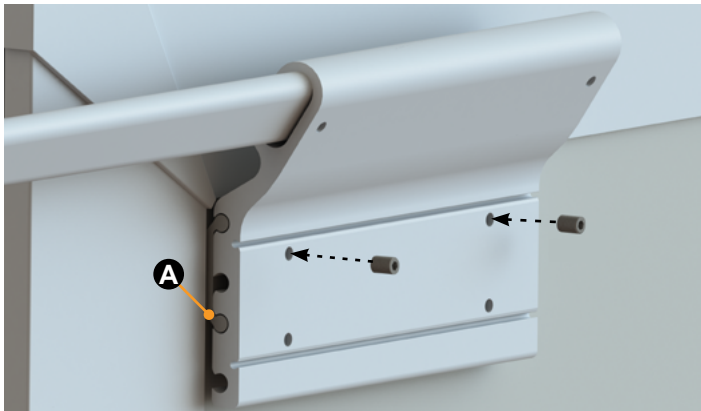
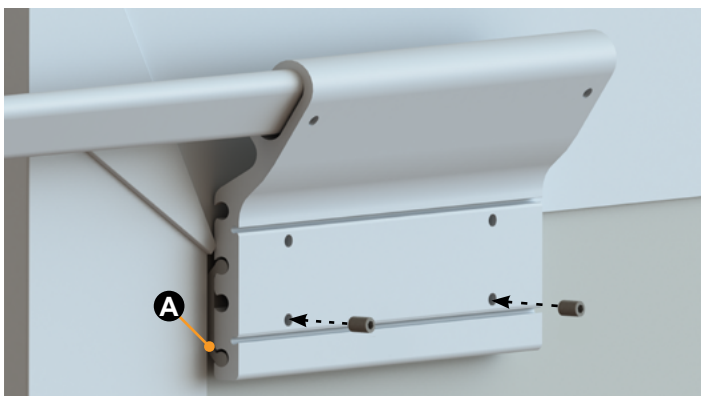

Fig.16
Fig.17
8. Install the two provided $\frac{1}{4}$ " - 20 x $\frac{1}{2}$ " set screws in the top two holes of the access bracket (Fig.16) if using the lower position. Install two set screws in the lower two holes of the access bracket (Fig.17) if using the higher position.